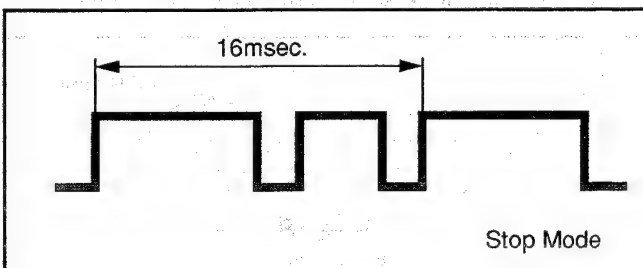

Fig. 11-3
Use point (A) on the VCR Main C.B.A as a check Terminal for judgment of the microprocessor. The microprocessor is OK if there is chip select pulse output. See Fig. 11-3.